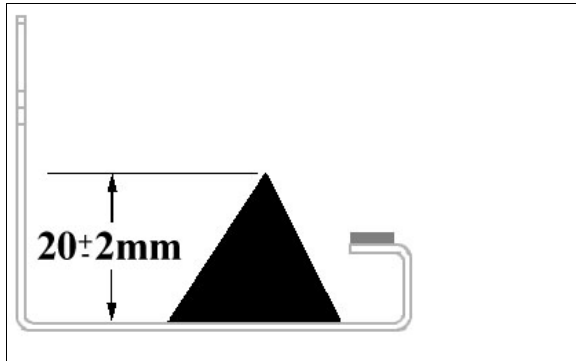

FIGURE 149: GLUE INSIDE THE TRIM
21. Apply a bead of TEROSON MS 9399 (687957) as shown in Figure 149.